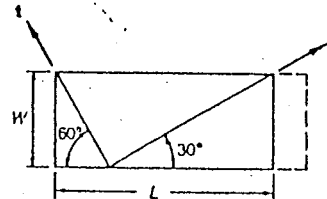

Fig. P2.38
2.38. A thin rectangular plate is deformed uniformly into another rectangle as shown in Fig. P2.38. The extensional strain along its length is .02 and the width remains unchanged. Compute approximately the shear strain γ_{xt} .